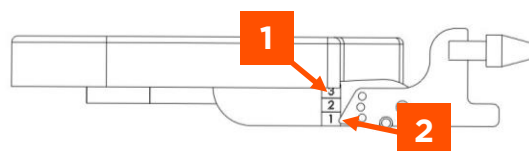

FIGURE 25
2. Pull and hold the cap of the plunger whilst moving the footplate to the desired measurement. The measurement setting is shown on the scale (Fig 25, Item 1) by the indicator on the frame (Fig 25, Item 2). Setting 1 = 90°, Setting 2 = 105° and Setting 3 = 120° from the vertical.